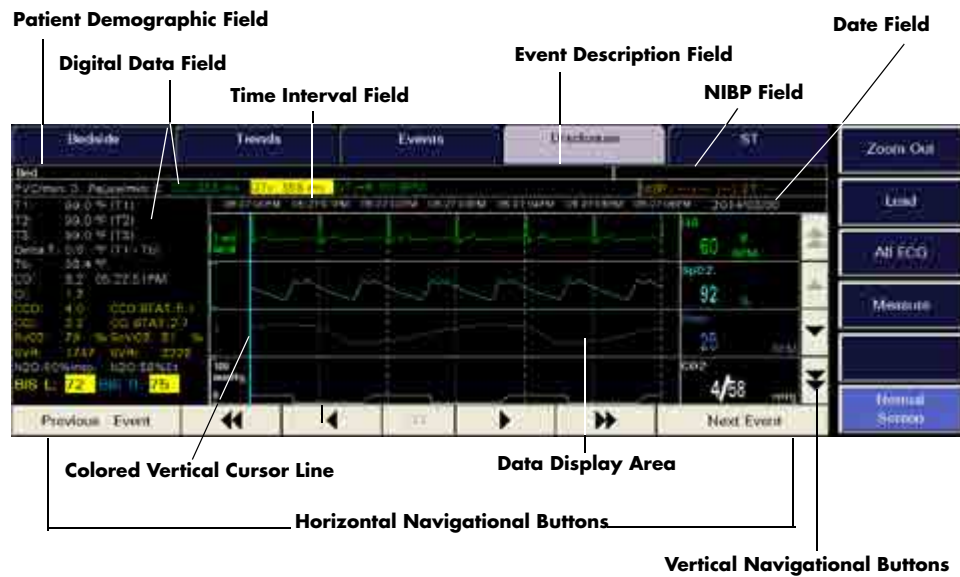

FIGURE 7-24 Disclosure Tab (Waveforms View)
The **Waveforms** view displays a selected area from the **Compressed** view of the patient's disclosure waveform (shown in FIGURE 7-24).
2. Select the **Disclosure** tab. The **Waveforms** view (shown in FIGURE 7-24) is displayed.